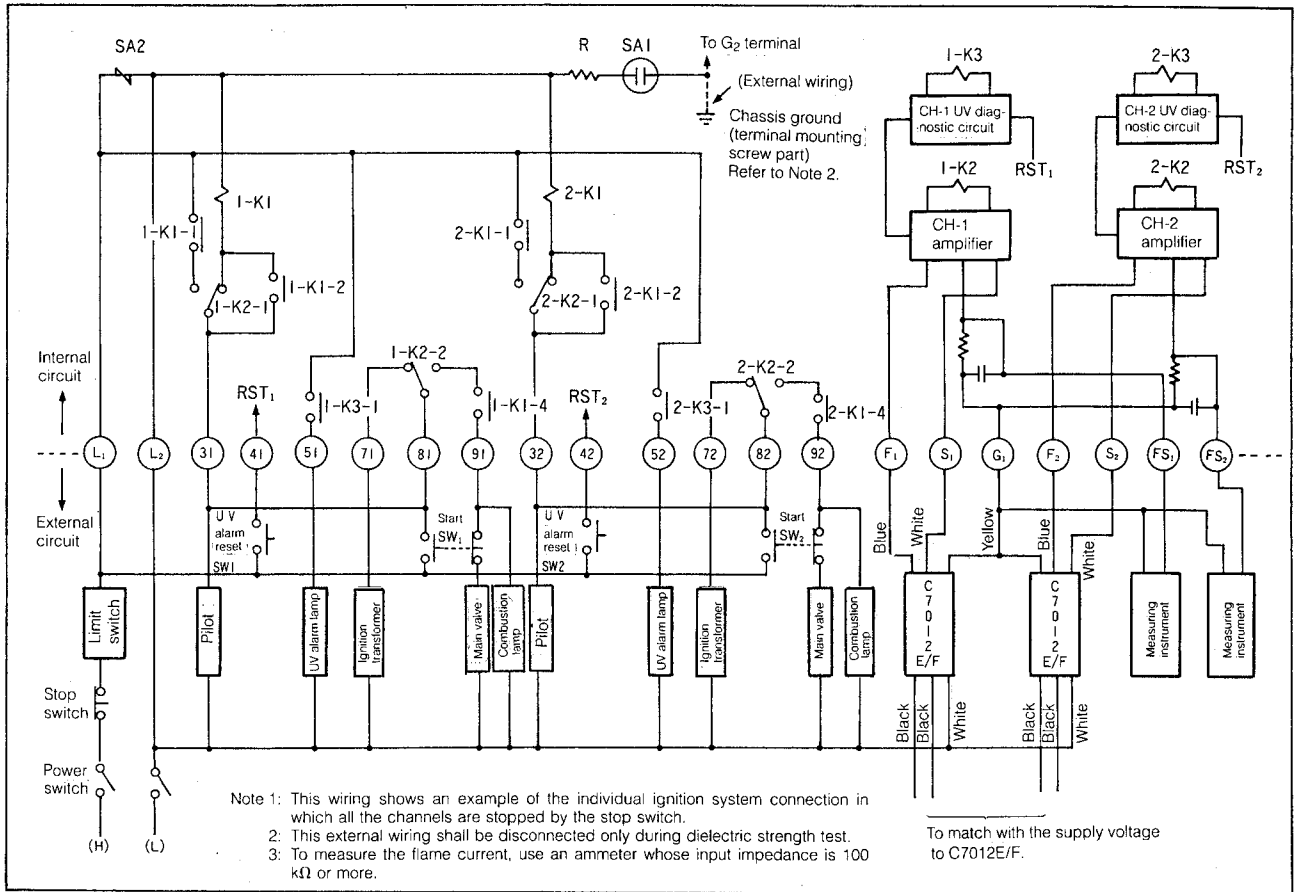

Fig. 6 Wiring the R4332B to External Devices (Individual manual ignition)
1. Normal functions (See Fig. 6)